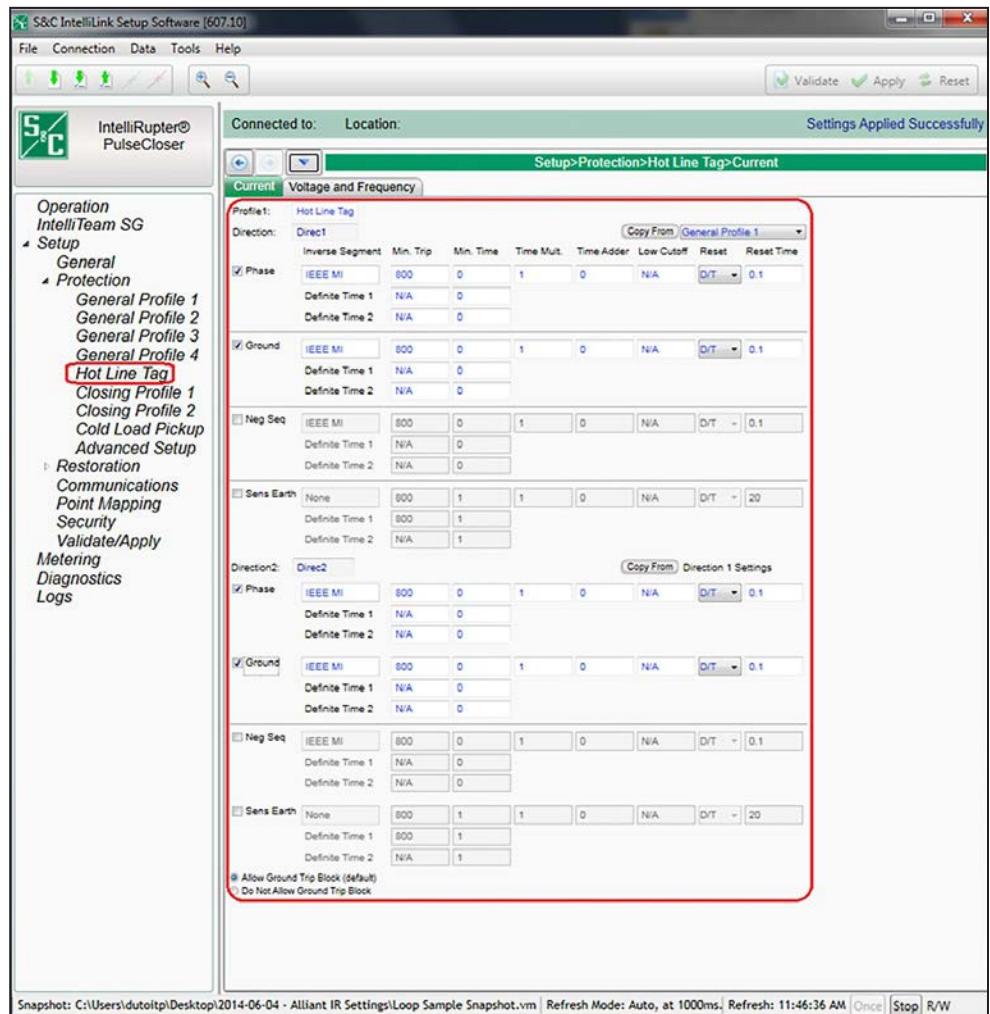

Figure 83. The *Setup>Protection>Hot Line Tag>Current* screen.
STEP 11. Adjust the **Hot Line Tag** mode TCC curves on the *Setup>Protection>Hot Line Tag>Current* screen. See Figure 83.
- STEP 1.** On the *Setup>Restoration>Loop* screen, enable the **Enable Loop Restoration** setpoint for the desired **General** profile. See Figure 83 on page 167.
When **Loop Restoration** mode is making a decision to close and restore the feeder, it uses the profile and test sequence programmed at the *Setup>Restoration>Loop>Loop Restoration Test Sequence* screen. See Figure 83 on page 167.